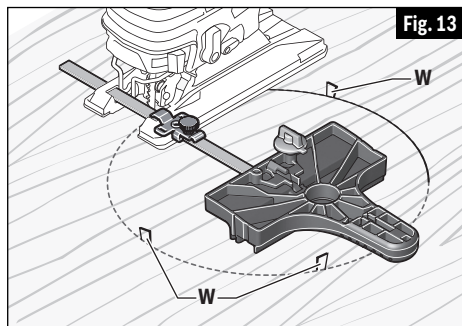

Fig. 13
- Place small wedges **W** in the cut as shown in Fig. 13, to keep the inner circle from spreading when near the